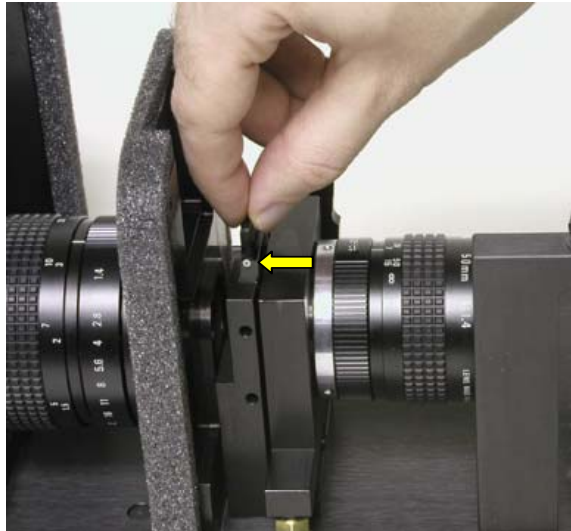

Figure 4.2. Installing the slit. The arrow indicates the slit-locking setscrew.
1. Make sure that the slit-locking setscrew (Figure 4.2) is loosened. If not, loosen it using a 0.035" Allen key.